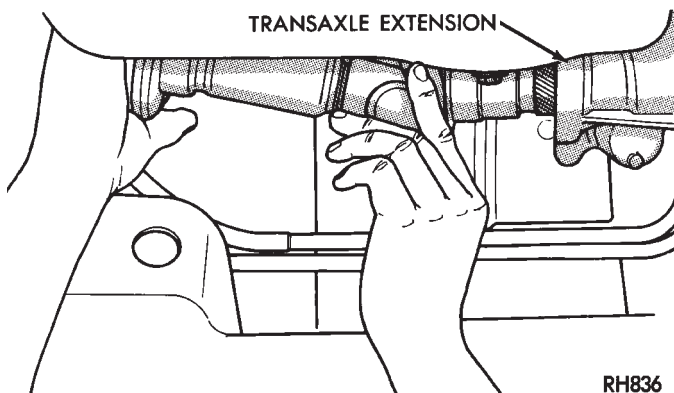
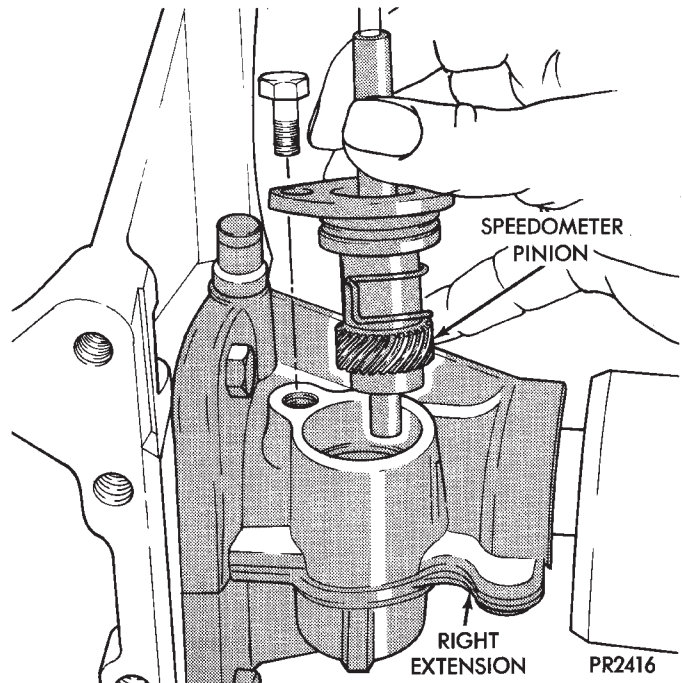

Fig. 9 Installing Intermediate Shaft Assembly
Fig. 10 Install Speedometer Pinion
(2) Hold the stub yoke while aligning and guiding the splined end into the transaxle (Fig. 9).
(3) Swing the bracket into position on the engine and loosely install the screws through the slotted holes.
(4) Push the intermediate shaft assembly into the transaxle as far as it can travel. Hold the assembly in this position and tighten the screws (bracket to engine block) to 54 N•m (40 ft. lbs.) torque. **This will ensure full seal engagement between the journal on the intermediate shaft and the seal in the transaxle extension.**
(5) Distribute a liberal amount of grease in side spline and pilot bore on bearing end of intermediate shaft. Use MOPAR Multi-Purpose Lubricant, or equivalent.
(6) Install speedometer pinion (Fig. 10).
(7) Install right driveshaft. See Driveshaft Assemblies Install.